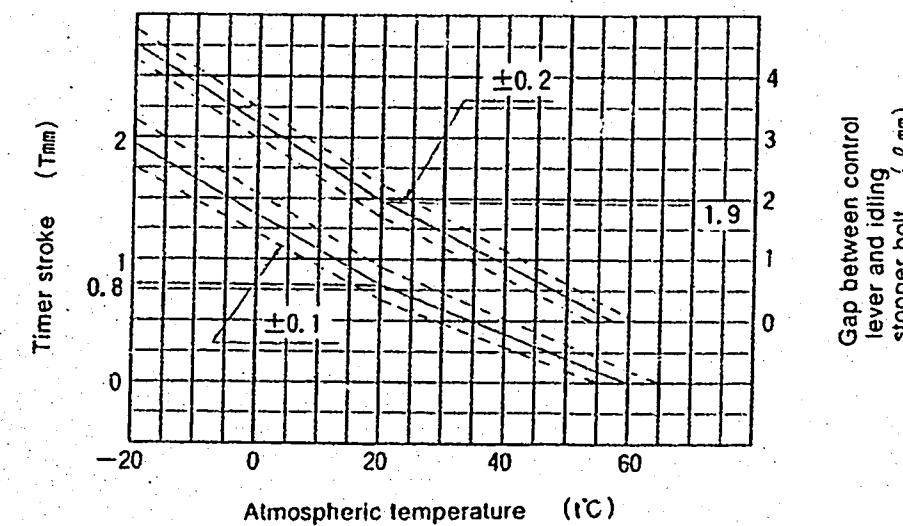

Fig. 2
1. Calculate the block gauge dimension  $l \pm 0.05$  mm from Fig. 2 according to the atmospheric temperature at the time of adjustment.
Formula for calculating Fig. 2